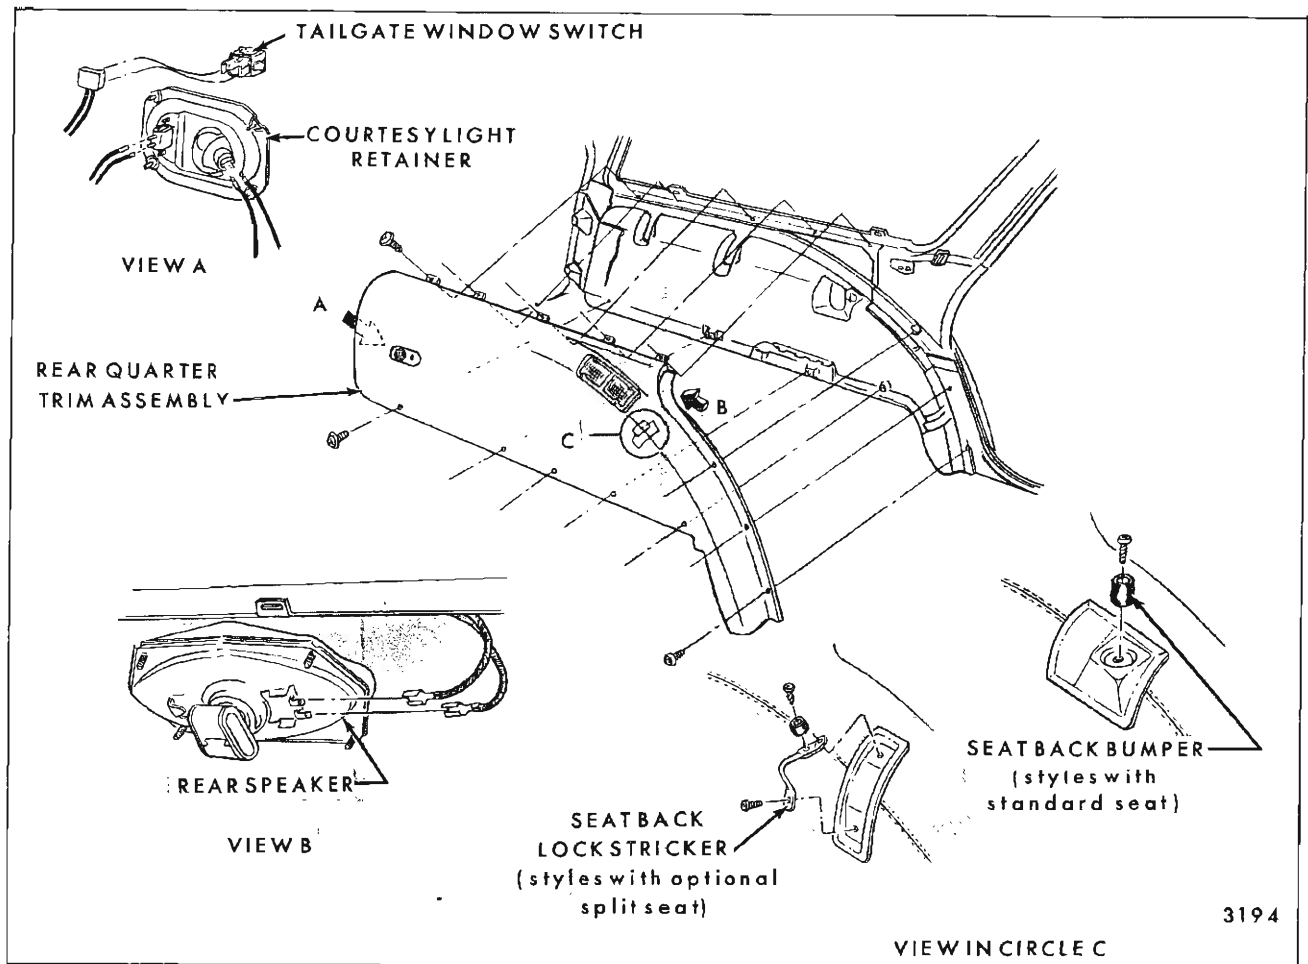

Fig. 14-36—Rear Quarter Trim Panel (Left Side) - "A" Station Wagon
2. Remove seat back bumper or seat back lock striker (only on styles with optional split seat), as shown on Fig. 14-36.
3. Remove screws at top, bottom and front of trim panel as shown in Figure 14-36 and remove trim panel from body.
**NOTE:** On styles so equipped, disconnect rear radio speaker, courtesy lamp, and tailgate window switch connectors as shown in Figure 14-36.